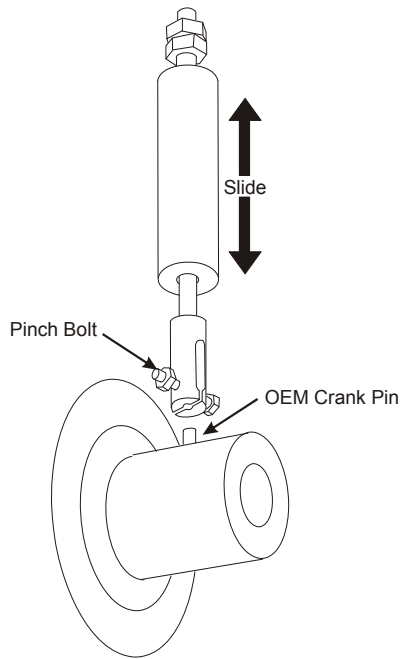

Figure 2.3
- ☐ Remove the crankshaft pin using the VMAC extraction tool (Figure 2.3):